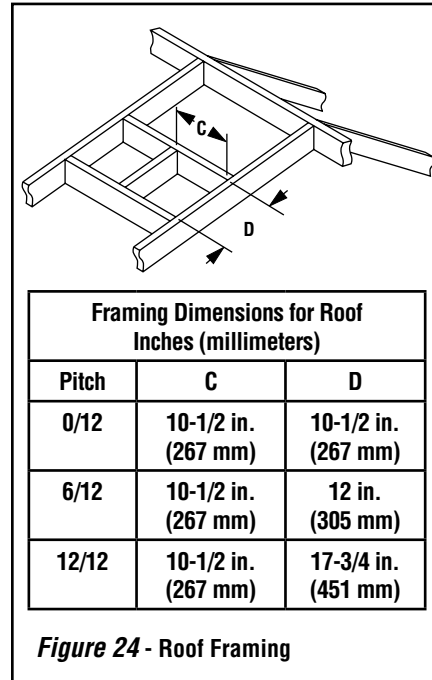

Figure 24 - Roof Framing
H. Frame roof opening - Identify location for vent at the roof. Cut and/or frame opening per Roof Framing Chart and Figure 24.